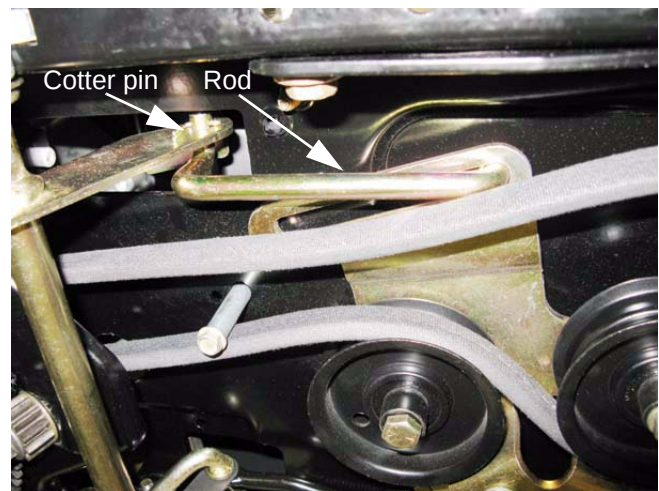

Figure 6.49
3. Disconnect the rod that joins the arm at the left side of the clutch/brake shaft to the drive belt tensioner pulley bracket. See Figure 6.49.